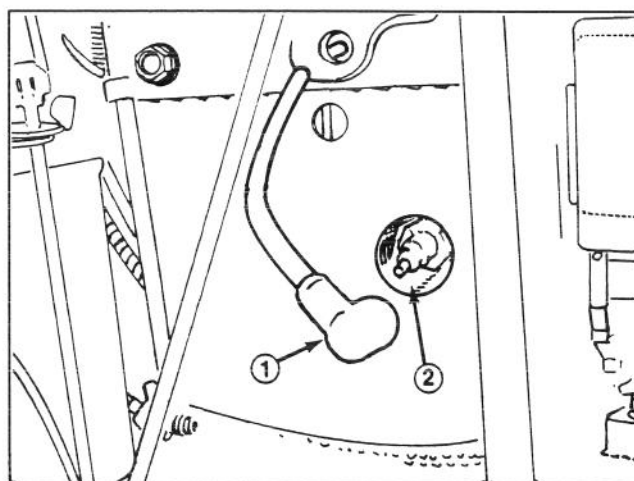

Figure 7
To prevent accidental engine starting while doing maintenance, shut the engine off, remove the key from ignition switch, and pull the wire off the spark plug (Fig. 7). Make sure the wire does not contact the plug accidentally.
2. Stop the engine and pull the wire off the spark plug (Fig. 7).